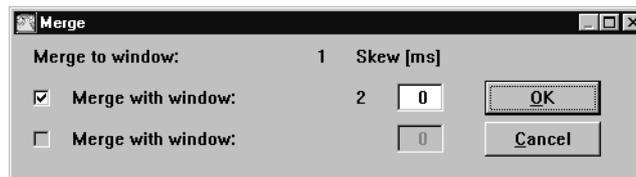

Fig. 12 The merge dialogue box.
- 4 Select **Window/Merge** to show the merge dialogue box, see Fig. 12.